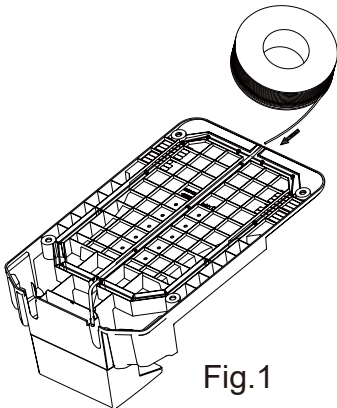

Fig.1
1. Follow up Fig.1 to Fig. 4 to connect the boundary wire with dock station.